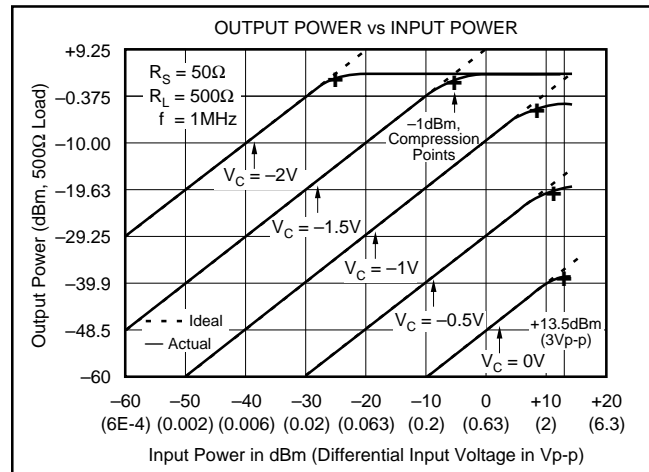

FIGURE 2. Input and Output Range.
NOTES: (1) See Input/Output Range discussion in the Applications Information section (Figure 2). (2) Gain is laser trimmed and tested at control voltages of 0V to -2V in 200mV steps;  $V_{IN} = 1V_{p-p}$  for  $V_C > -1V$  gains less than 0dB;  $V_{OUT} = 1V$  for  $V_C < -1V$ . (3) Output offset change from offset at  $V_C = 0V$ . (4) Gain = +40dB; Input step of 2V to 2mV; time required for output to return from saturation to linear operation. (5)  $V_{IN} = 7mV_{p-p}$ ,  $V_{OUT} = 700mV_{p-p}$  (250mVrms); Output Power = -10dBm/line, equal amplitude tones of 5MHz  $\pm 500Hz$ ,  $V_C = -2V$ . See Typical Performance Curves. (6) With  $R_S = 0\Omega$ , and noise bandwidth of 1MHz.  $IDR = 20 \log(V_{ORMS}/(e_{ORMS} \cdot \sqrt{BW}))$  where  $V_{ORMS}$  is rms output voltage,  $e_{ORMS}$  is output noise spectral density, and BW is noise bandwidth.
The VCA610's 77dB gain range allows the user to handle an exceptionally wide range of input signal levels. If the unit's input and output voltage range specifications are exceeded, however, signal distortion and amplifier overloading will occur. The VCA610's maximum input and output voltage range is best illustrated in Figure 2.
Figure 2 plots output power versus input power for five voltage gains spaced at 19.25dB intervals. The 1dBm compression points occur where the actual output power (solid lines) deviates by  $-1dBm$  from the ideal output power (dashed lines). Compression is produced by different mechanisms depending on the selected gain. For example, at  $G = -38.5dB$  ( $V_C = 0$ ), 1dBm compression occurs when the input signal approaches approximately 3Vp-p (13.5dBm for  $R_S = 50\Omega$ ). Input overloading is the compression mechanism for all gains from  $-38.5dB$  to about  $-5dB$ . For gains between  $-5dB$  and  $+5dB$ , the compression is due to internal gain stage overloading. Compression above a gain of  $+5dB$  occurs when the output signal becomes distorted as internal gain stages become overdriven. At  $G = 0dB$ , 1dBm compression occurs when the input exceeds approximately 1.5Vp-p (7.5dBm). At gains greater than about 5dB, the compression mechanism is due to output stage overloading.
As shown in Figure 2, the onset of overload occurs whenever the actual output begins to deviate from the ideal expected output. If possible, the user should operate the VCA610 within the linear regions shown in order to minimize signal distortion and overload delay time. However, instances of amplifier overload are actually quite common in Automatic Gain Control (AGC) circuits which involve the application of variable gain to signals of varying levels. The VCA610's design incorporates circuitry which allows it to recover from most overload conditions in  $200\text{ns}$  or less. Overload recovery time is defined as the time required for the output to return from overload to linear operation following the removal of either an input or gain-control overdrive signal.